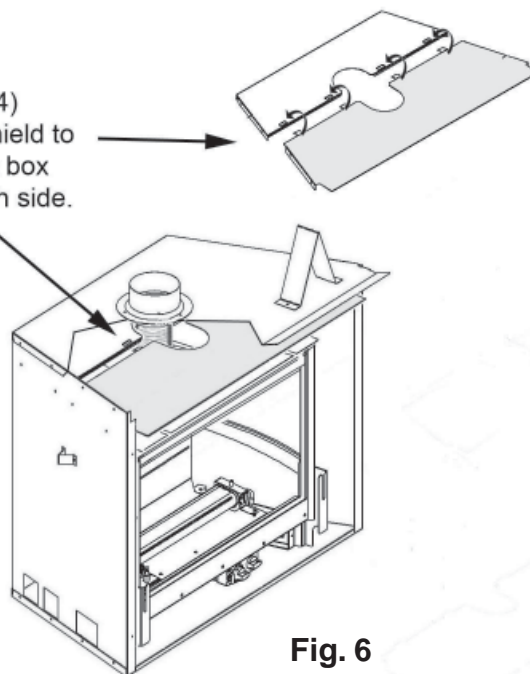

Fig. 6
2. Place the tabs at the rear edge of the heat shield into the slots. Secure the heat shield using 2 screws on each side. Screw from within the Z.C. box. **See Fig. 6.**